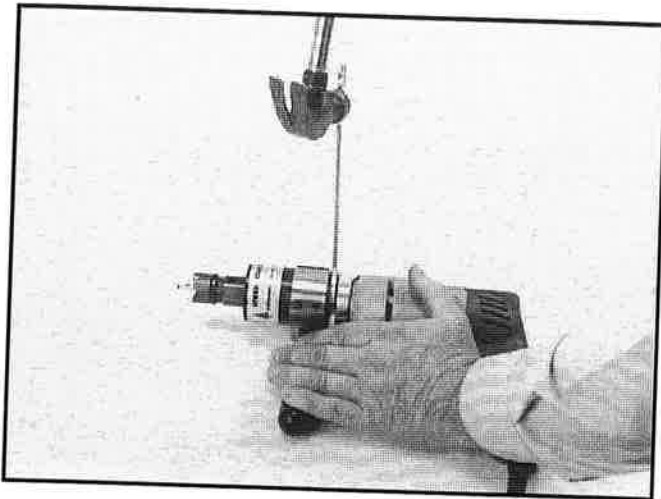

Fig. 7
3. With the drill body held firmly in a vise or on a bench, strike the edge of the wrench with a hammer to loosen threads (**FIG. 7**). Turn in a counterclockwise direction.